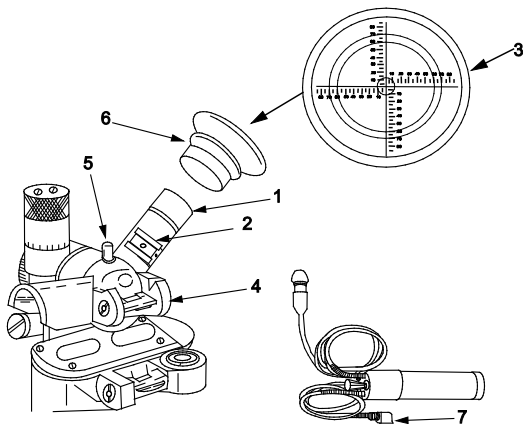

Figure 6. Aiming Circle Elbow Telescope.
1. The optical filter (Figure 6, Item 1) is shown in in-use position and is used to protect your eye from sun rays. The optical filter is mounted over the eyepiece end of the telescope when used for observations on the sun. When not in use, it is stored on the filter post on the right side of the telescope, above the serial number plate.
2. The slotted bracket (Figure 6, Item 2) is used for mounting the M51 instrument light bracket light (Figure 6, Item 7). The reticle is lighted through the hole.
3. The reticle (Figure 6, Item 3), as seen through the telescope, has horizontal and vertical centerlines that are graduated to give azimuth and elevation angles while the operator is looking through the elbow telescope. Each graduation is 5 mils and each scale reads 0 – 85 mils. The Polaris 2 Reticle is installed in most Aiming Circles. This includes the reticle pattern described above as well as three concentric circles used for aligning stars for the Polaris 2 method of astronomic observations.
4. Open sight (Figure 6, Item 4) allows fast telescope orientation. The reflector (Figure 6, Item 5) allows backsighting by artillery weapon's fire control instruments. The reflector can be lighted at night with the M51 instrument light hand light. The eyeshield (Figure 6, Item 6) blocks light entering your eye from the side.